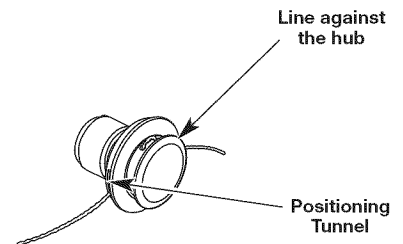

Fig. 23
5. Pull the line and make sure the line is against the hub and is fully extended through the positioning tunnels (Fig. 23).